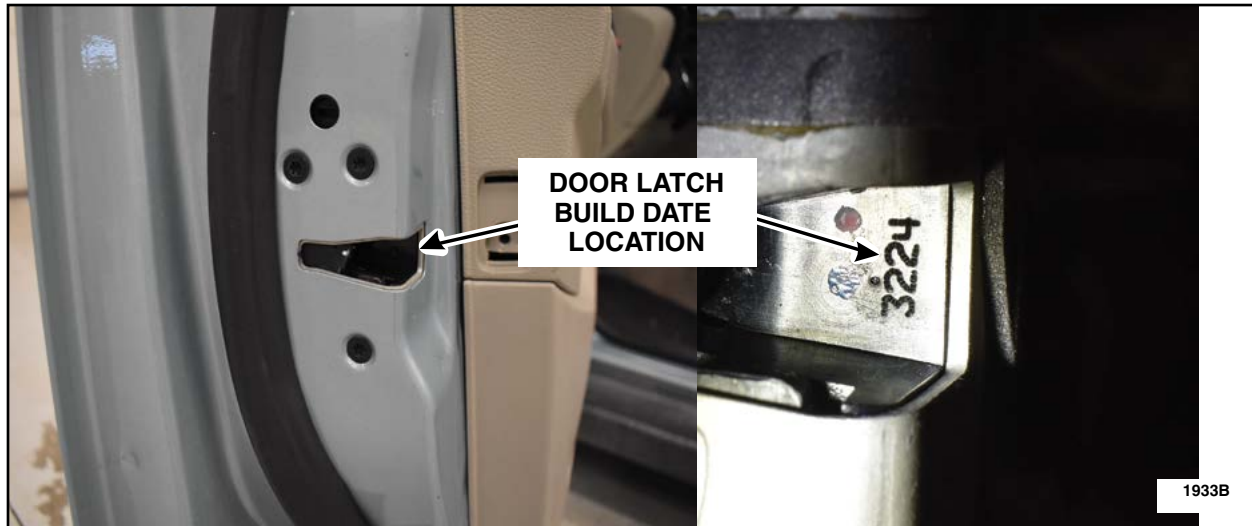

FIGURE 19
5. Once the **new** latches have been installed in the vehicle, record both date codes of the new latches. Additionally, capture a picture of the date code of each new door latch (two pictures total) showing them installed in the vehicle. These pictures will need to be submitted on the SSSC web questionnaire. See Figure 19.